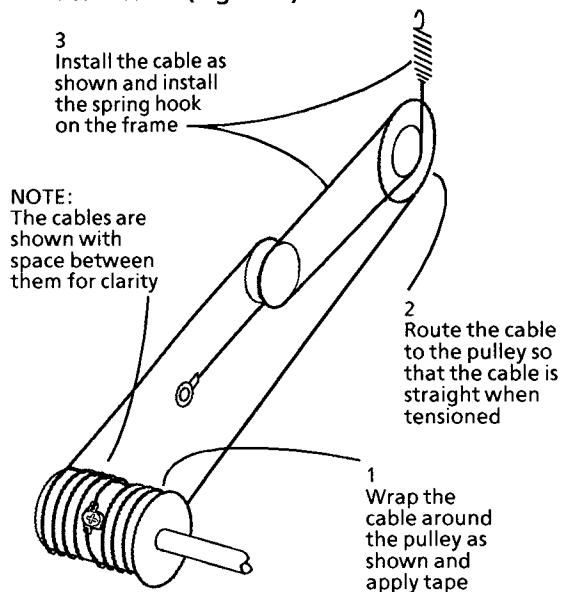

Figure 4. Installing the Front Scan Cable
5. Install the remaining portion of the front Scan Cable (Figure 4)